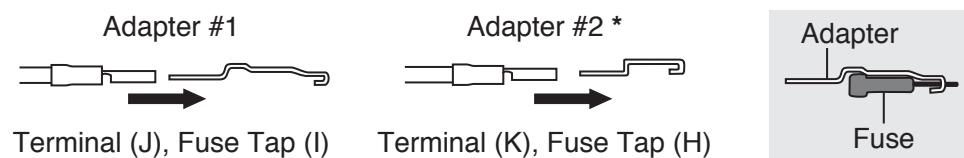

fig. 6
- g. Connect the black wire "battery ground" to the negative battery terminal after crimping terminal (T) to wire.
- b. Strip off 1/4" insulation off both sides of the inline fuse holder (N) and the AL004 (RD-10GA) wire.
- c. Crimp weatherproof yellow butt splice (M) to AL004 (RD-10GA) wire.
- d. Crimp the other end of butt splice to one side of the inline fuse holder (N).
- f. Select the appropriate type of fuse tap and terminal for this application (fig. 6).